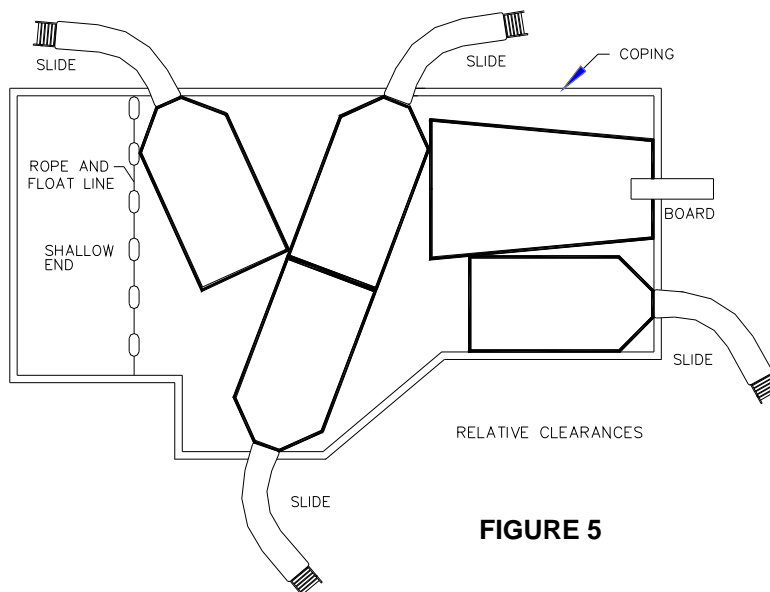

FIGURE 5
- A. The minimum clearance area of a slide or diving board shall not intersect any coping or rope and float line as shown in FIGURE 5. The minimum clearance area of a slide or diving board may intersect each other provided that they are not used simultaneously.